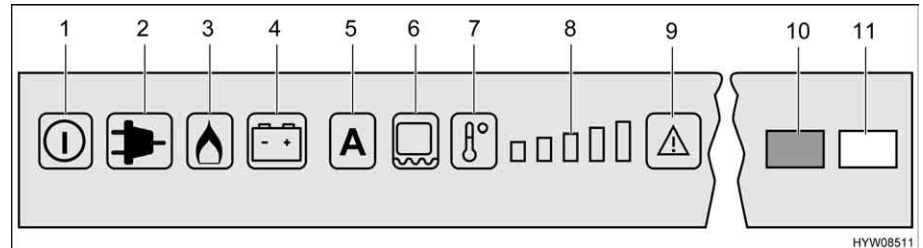

Fig. 229 Operating controls for the refrigerator (Dometic RMD)
If the "AES" operating mode is set, the 230 V supply is **not** connected and the vehicle engine is **switched off**, the AES selects the gas supply. When selecting gas operation the ignition fuse is opened automatically so gas can get into the burner. At the same time the electronic ignition is activated. If the gas flame is extinguished, e.g. by blast of wind, the ignition is activated immediately and re-ignites the gas. If there is a fault in gas operation, the illuminated buttons "Gas" (Fig. 229,3) and "Fault" (Fig. 229,9) flash. The "Fault" indicator lamp (Fig. 229,10) lights up and an alarm sounds for 20 seconds.
When turned on the first time the refrigerator automatically selects the middle thermostat position. This position can be adjusted manually using the temperature range selection button (Fig. 229,7). The indicator lamps (Fig. 229,8) show the selected thermostat position. The refrigerating temperature for all three types of power is set with the temperature range selection button. It takes a few hours till the refrigerator reaches its normal operating temperature. When changing over the operating mode the thermostat setting will be maintained. The refrigerating temperature is retained regardless of the type of power being used.
- Switch on the frame heater for a 2 hour period: Push button (Fig. 229,6) once. One bar is lit up on the temperature range display (Fig. 229,8).
- Switch on the frame heater for a 5 hour period: Push button (Fig. 229,6) twice. Two bars are lit up on the temperature range display (Fig. 229,8).
- Setting frame heater for continuous operation: Push button (Fig. 229,6) three times. Three bars are lit up on the temperature range display (Fig. 229,8).
The temperature range display (Fig. 229,8) shows the operating time of the frame heater for several seconds.
High external temperatures and high humidity can cause drops of water to form on the metal frame of the freezer compartment. This is why the refrigerator is equipped with a frame heater for the freezer compartment. If the temperature and humidity are high, switch on the frame heater by pressing the button (Fig. 229,6). This prevents corrosion. If the frame heater is switched on, the illuminated button (Fig. 229,6) is lit.
- Press and hold the On/Off button (Fig. 229,1) for about 2 seconds. The refrigerator switches on and the previously set power type or "AES" is displayed.
- Use the temperature range selection button (Fig. 229,7) to set the refrigerating temperature. The indicator lamps (Fig. 229,8) show the selected thermostat position.
- Press and hold the On/Off button (Fig. 229,1) for about 2 seconds. The refrigerator switches off and no displays are lit.